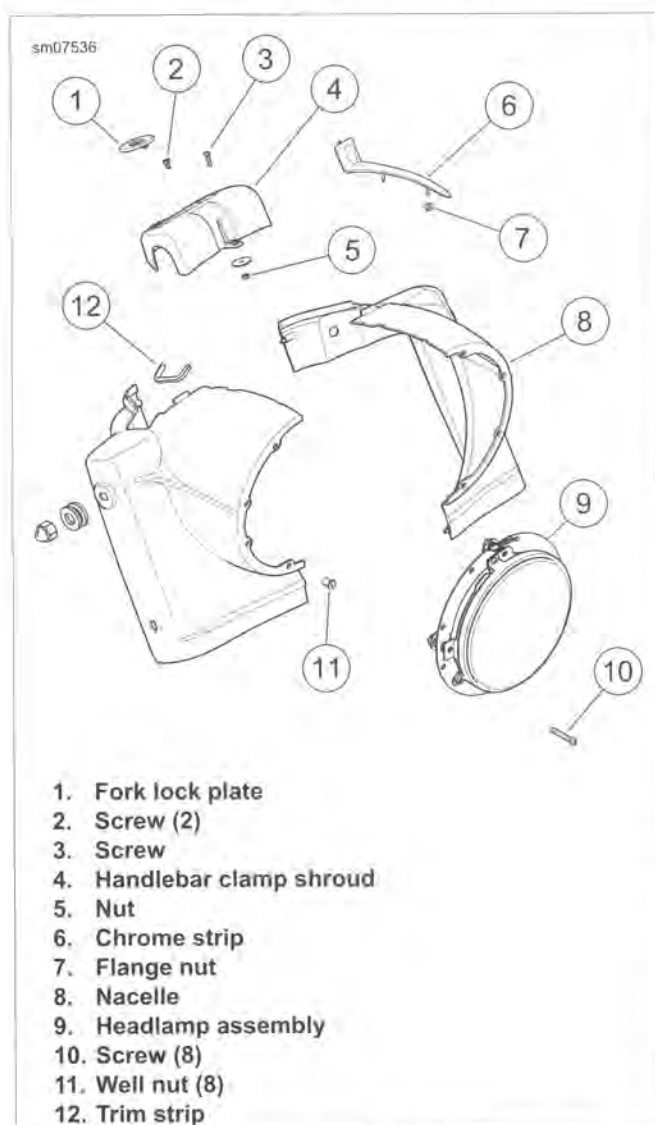

Figure 2-155. Headlamp Nacelle Assembly
5. See Figure 2-155. Remove eight screws (10) to free the headlamp assembly from the headlamp nacelle.
See Figure 2-155. Verify that trim strips (12) are installed to prevent chafing of the brake hose and/or handlebar switch wires.
See Figure 2-155. If disassembled, install screw, flat washer and nut on the handlebar clamp shroud.
3. See Figure 2-155. Install the handlebar clamp shroud (4):
- c. Install screws (2).
4. Tighten screws (2, 3) to 10-20 **in-lbs** (1.1-2.3 Nm). Install fork lock plate (1).
5. Install chrome strip (6). Secure with flange nut (7). Tighten to 15-20 **in-lbs** (1.7-2.3 Nm).
8. Install headlamp assembly. Secure with eight screws (10). Tighten to 9-18 **in-lbs** (1.0-2.0 Nm).